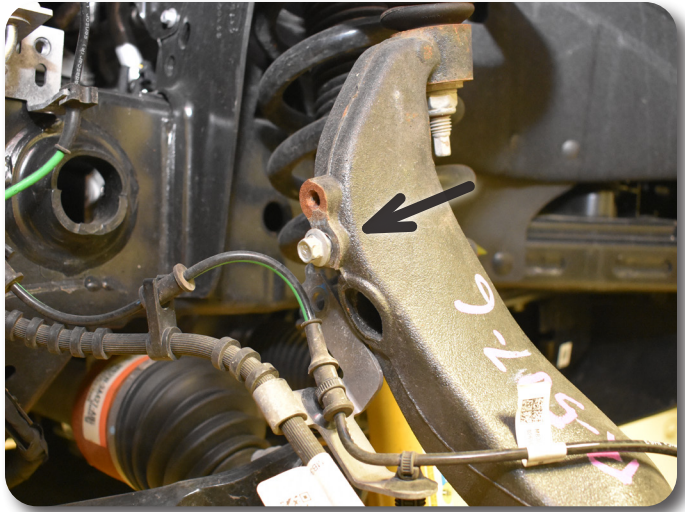

Figure 2
6. Disconnect the front brake line and ABS line from the steering knuckle. Save bolts. **Figure 2**